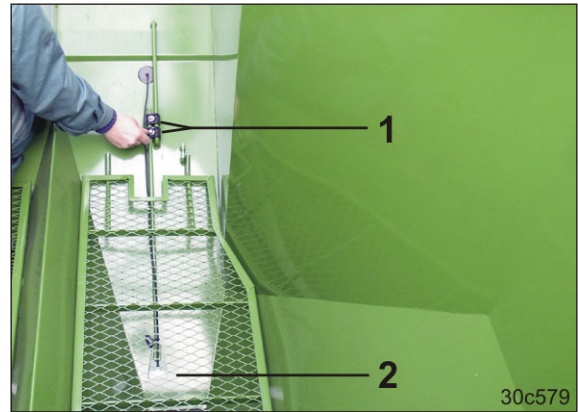

Fig. 188
3. Loosen the wing nuts (Fig. 188/1).
4. Adjust the height of the fill level sensor (Fig. 188/2).